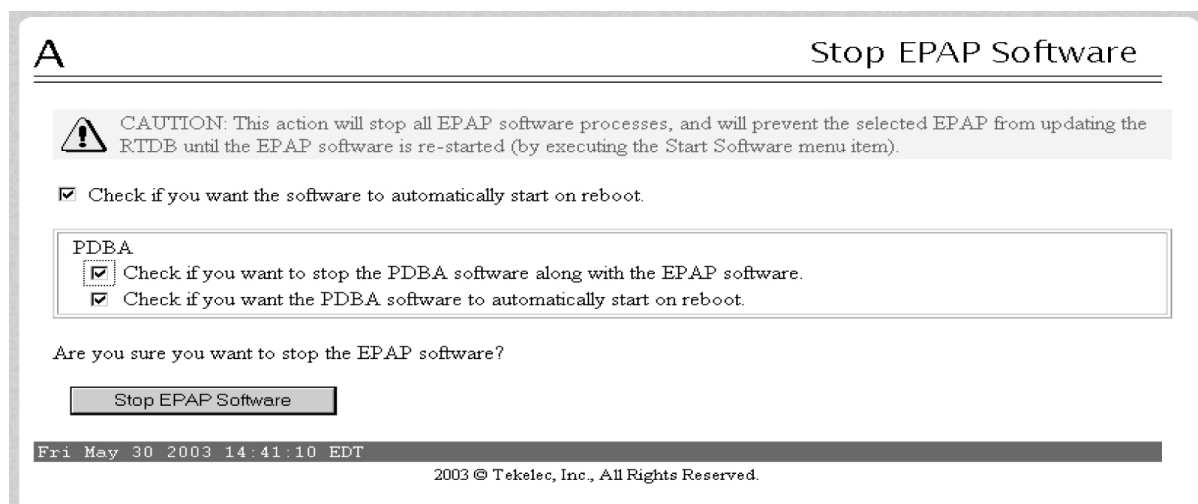

Figure 47: Stop Software
4. On the **Stop EPAP Software** screen, make sure the following checkboxes are all checked, so that the PDBA software is stopped along with the EPAP software and so that both the PDBA and EPAP software are automatically restarted on reboot (see Figure 47: Stop Software for an example):